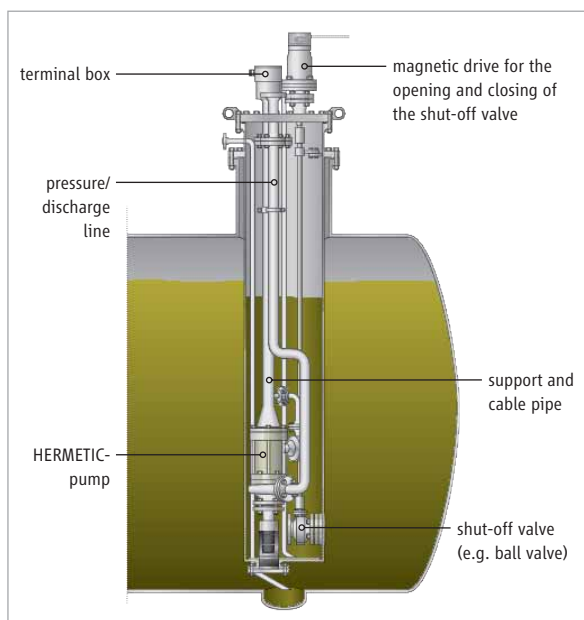

Figure 7: Installation pump with the opportunity to separate the pump from the liquid in the vessel.
- installation of the pump with the opportunity to separate the pump from the liquid in the vessel [Figure 7]